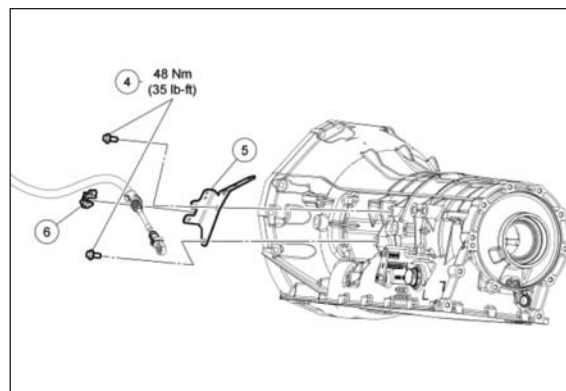

Figure 82
1. Next the vehicle selector lever cable and bracket must be removed to help in the installation (**Fig. 82**).